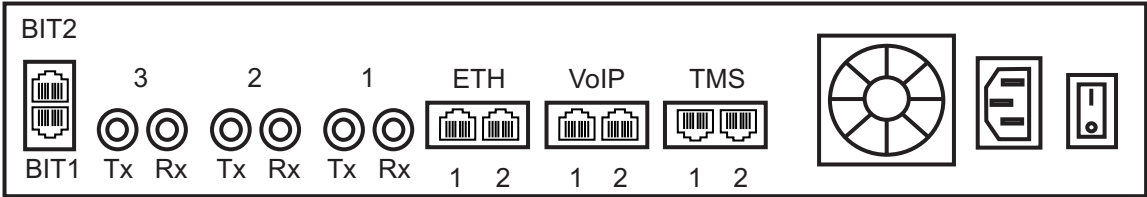

Figure 2.6 DS3 Interface to the PSTN
A TMG3200 with 3 sets of BNC connectors enables the connection to DS3 lines. See figure 2.6 on page 15
- 1. Start with the Dual BNC port pair #1 (right-most) as shown in figure 2.6 on page 15. Connect one pair of BNC cables between this port and the DS3 line.